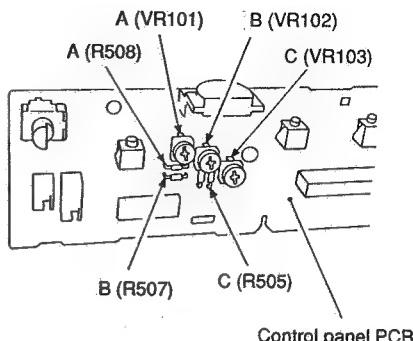

Figure 3-47A (FC330)
- 2) Set the meter to the '20 kΩ' range, and measure C between terminal of VR103 and terminal of R505 on the detached control panel PCB; see Figure 3-47A.
- 4) In the case of the FC330, adjust VR101 (A between terminal of VR101 and terminal of R508) and VR102 (B between terminal of VR102 and terminal of R507); see Figure 3-47A.